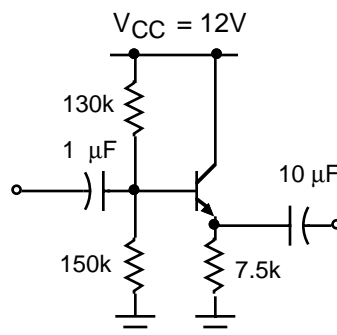

Fig 6.1
a) Construct the emitter follower circuit shown below in Fig 6.1.